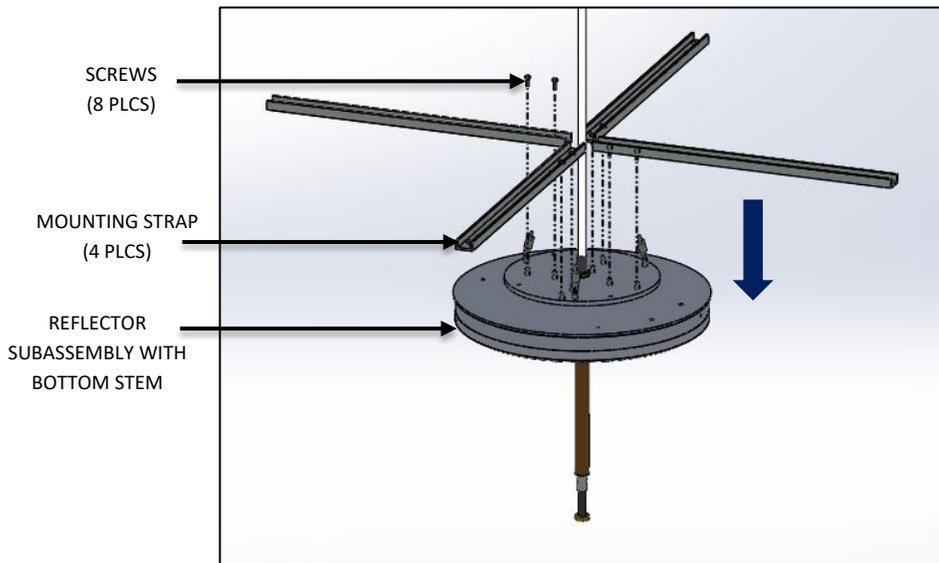

FIG. 14 – MOUNTING STRAP INSTALLATION
2. Assemble **MOUNTING STRAPS** to **REFLECTOR ASSEMBLY** by **SCREWS** provided as shown below in FIG. 14.